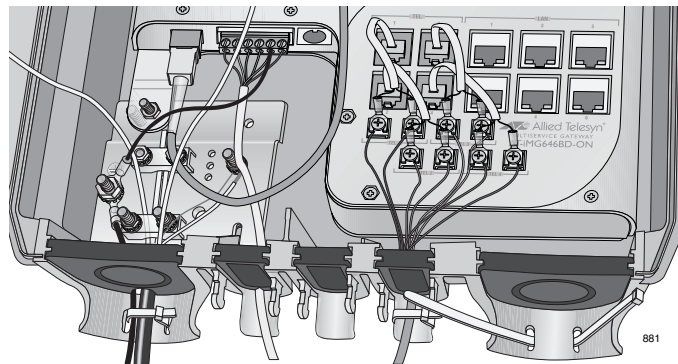

Figure 43. Inserting the Wire Tie
2. Insert a UV-rated wire tie (not provided) through the slots at the bottom of the entrance, as shown in Figure 43.